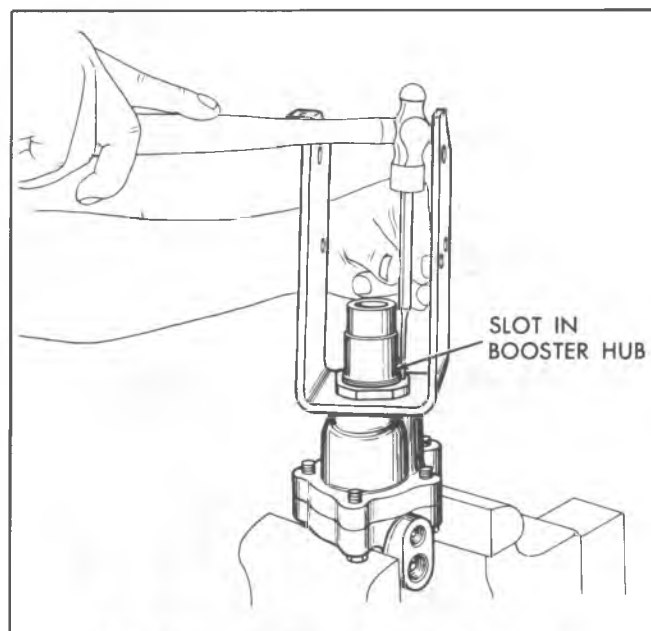

Fig. 9--Staking Mounting Bracket Nut (Typical)
15. Use a hammer and a small punch inserted into the staking groove of the nut, at the slot in the booster hub (fig. 9), to stake the nut in place. Be sure that the outer thread of the nut is upset.